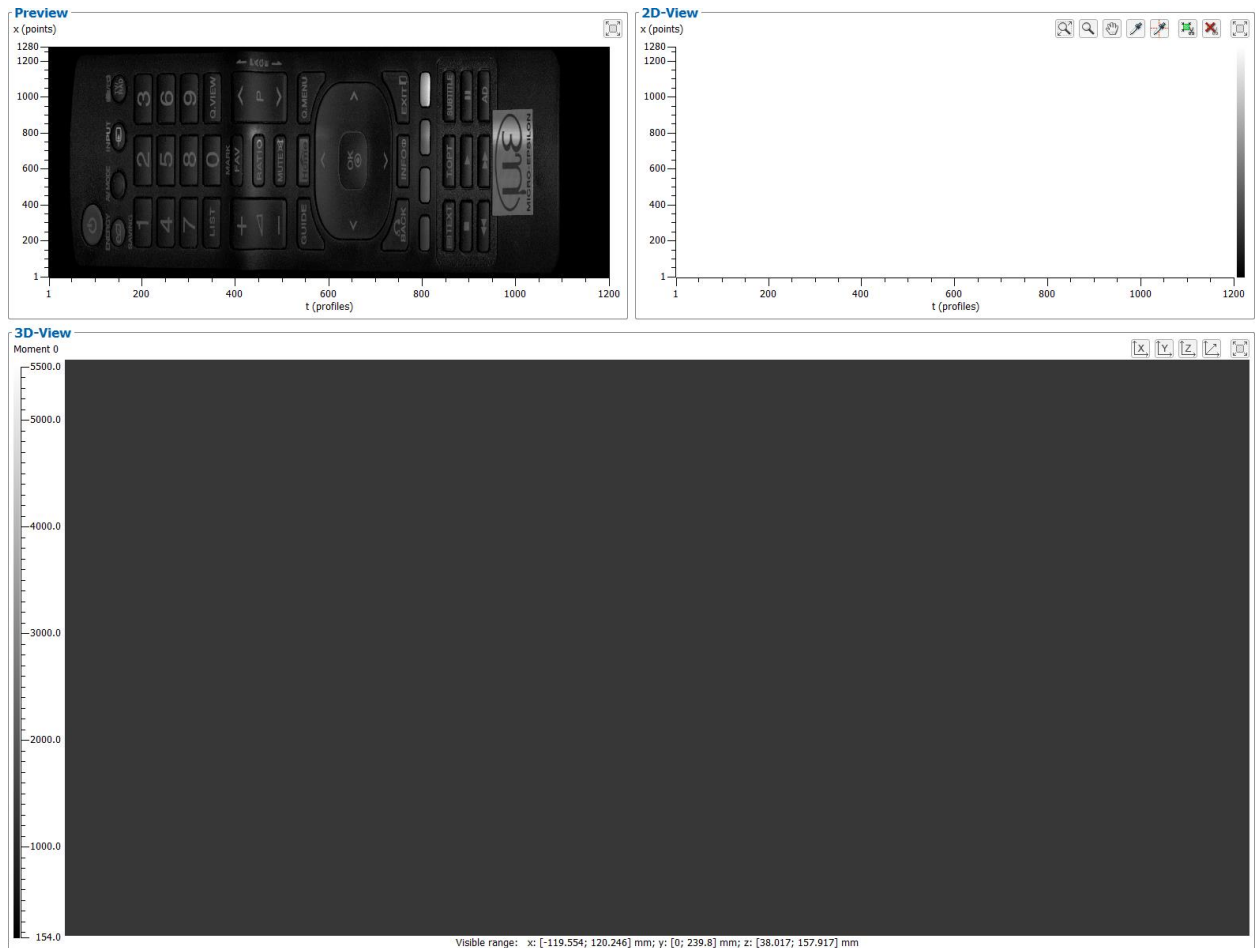

Fig. 3.41: 3D visualization – step 1
- ▶ In the entry field "Preview mode" select the option "continuous" to continuously update the preview window or select the option "trigger" and press the button "Trigger" to display a profile sequence in the preview window (see Fig. 3.41).
- ▶ The profiles are now read from the file and the preview window is updated continuously (see Fig. 3.41). Press the button "Stop" to stop the playback, if necessary.